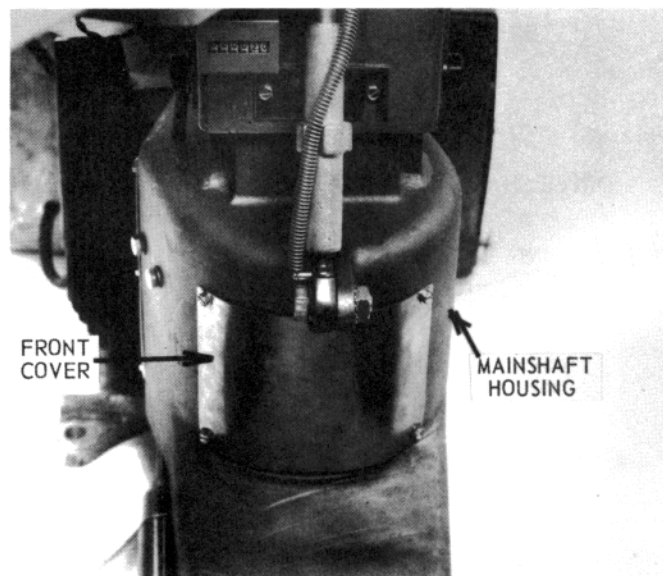
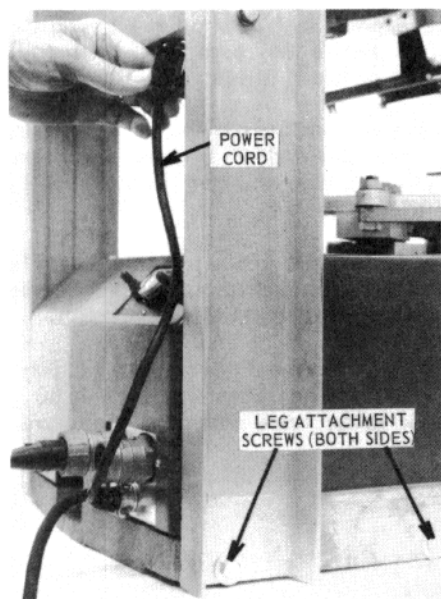
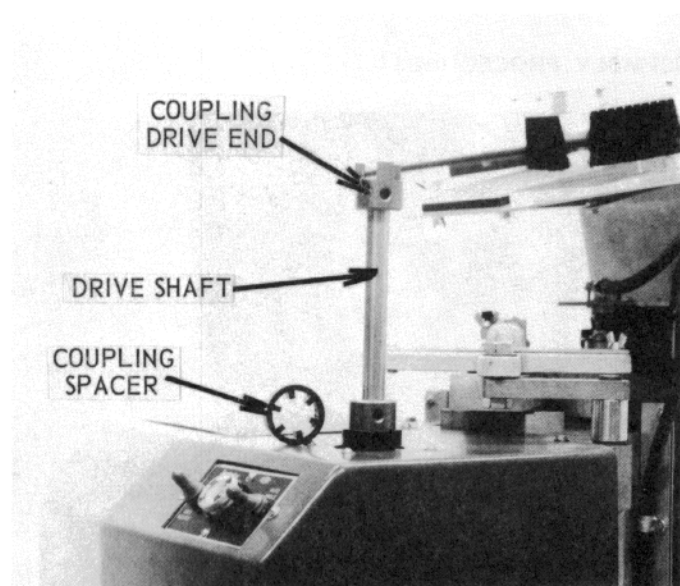

Figure 27 — Mainshaft Housing
Figure 28 — Magazine Attachment
Figure 29 — Drive Shaft and Couplings
- 1.1 The mainshaft clutch, mainshaft assembly, mainshaft gear, and associated parts are located in the mainshaft housing (see Figure 27).
- 1.2.2 Remove front cover (see Figure 27). Detach the power cord at the magazine gearbox by turning it counterclockwise and pulling it out (see Figure 28).
- 1.2.3 Loosen the four screws that hold the magazine support legs to the base (see Figure 28). Pull up on both legs and remove the magazine assembly. Be careful not to lose the drive shaft or the two molded rubber coupling spacers that fit in the coupling ends (see Figure 29).
- 1.2.4 Remove front cover (see Figure 27).